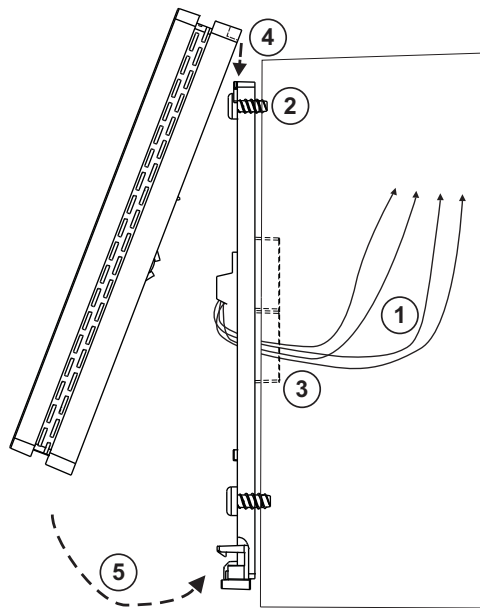

Figure 11 Microset 4 mounting connections.
4. Insert Microset 4 tabs into backplate slots. See Figure 11.
5. Push bottom of Microset 4 until it clicks into position. See Figure 11.